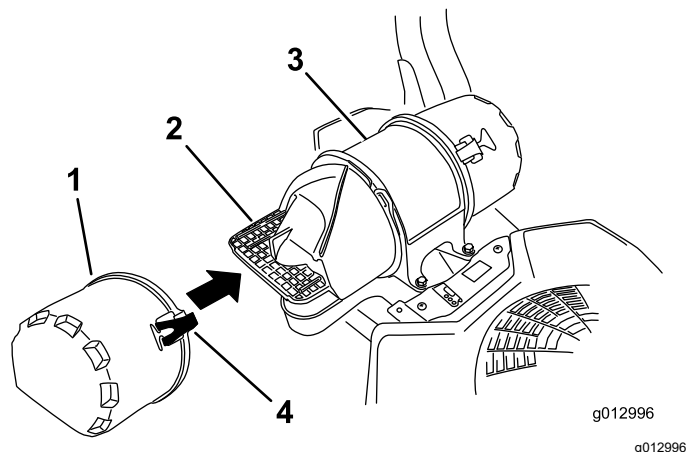

Figure 31
3. Release the latches on the air cleaner and pull the air-inlet cover off the air-cleaner body (Figure 31).
5. Install the air-inlet cover and secure it with the latches (Figure 31).
4. Install the air-cleaner cover and secure the latches (Figure 31).